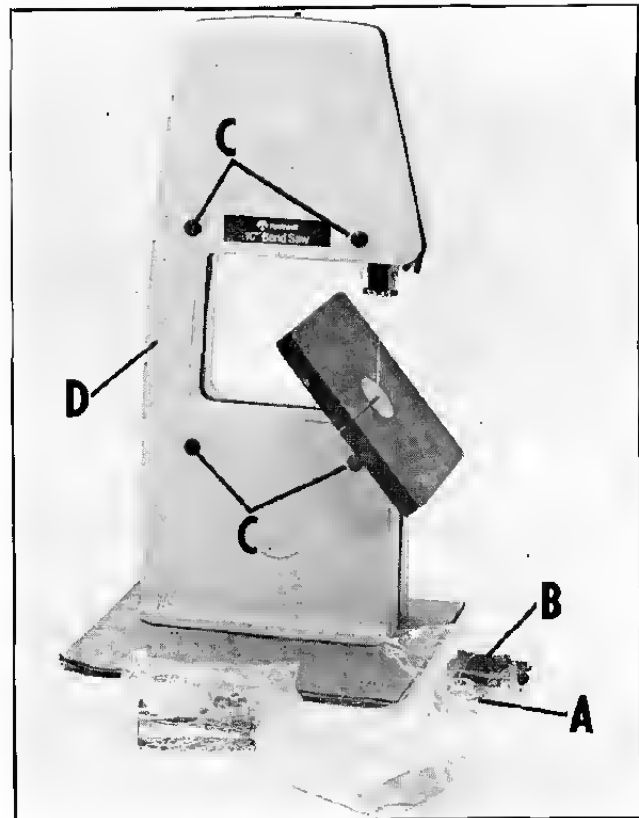

Fig. 1
Carefully unpack the band saw and all loose items from the carton. Fig. 1 illustrates the machine removed from the carton along with the 2-3/4" dia., 5/8" bore motor pulley (A) and the 44-1/8" O.C. V-belt (B), supplied with the band saw. Note that the band saw table is tilted for packing purposes.
1. Remove the four knobs and washers (C) Fig. 1, and the front wheel guard (D).